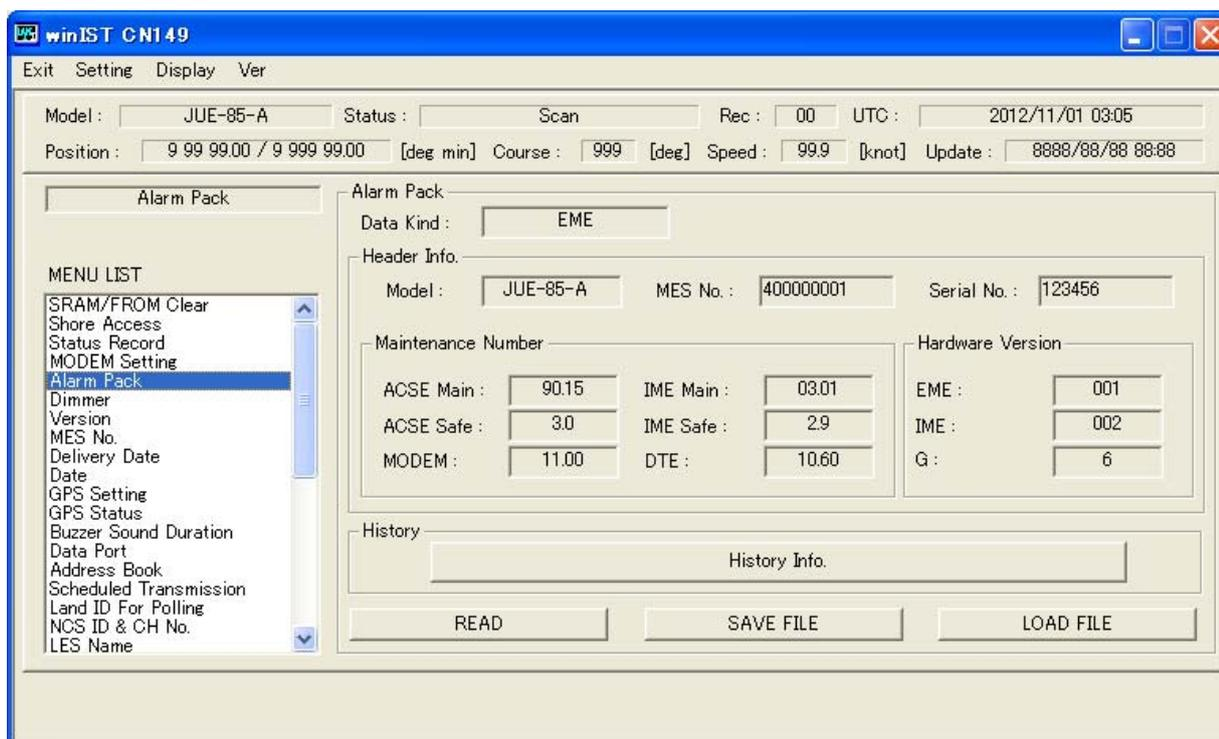

Fig 4-6-1b [Alarm Pack] data acquisition succeeded screen(JUE-85/95-A)
Step 5. Following screen is displayed when [History Info] button is clicked on the screen of Fig. 4-6-1b. Confirm the data